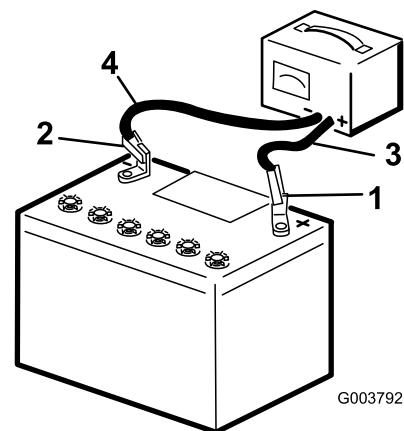

Figure 59
2. Connect the positive lead of the battery charger to the positive-battery post (Figure 59).
3. Connect the negative lead of the battery charger to the negative-battery post (Figure 59).
- 5. When the battery is fully charged, unplug the charger from the electrical source, then disconnect the charger leads from the battery posts (Figure 59).